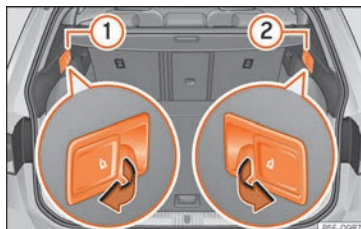

Fig. 135 In the luggage compartment: levers for remote release of the left part ① and right part ② of the rear seat backrest.
- Pull the remote release lever of the left part » Fig. 135 ① or right part ② of the backrest in the direction of the arrow. The released part of the rear seat backrest is folded automatically down and forwards.